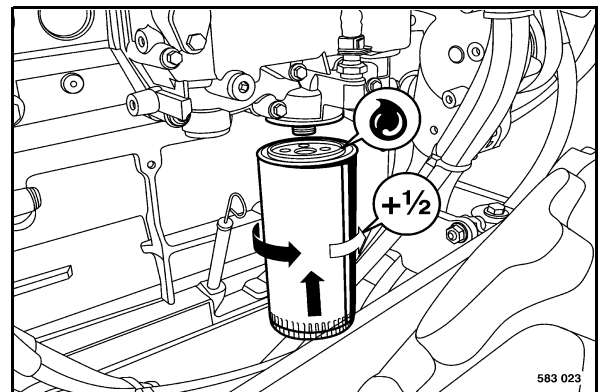

Fig. 138
- Turn the new filter cartridge (Fig. 138) on by hand, until the seal contacts.